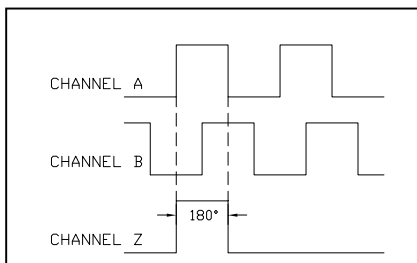

Figure 4. Quadrature encoder with an index channel.
- Quadrature with an index channel (Figure 4)
### Quadrature with Index (Figure 4)